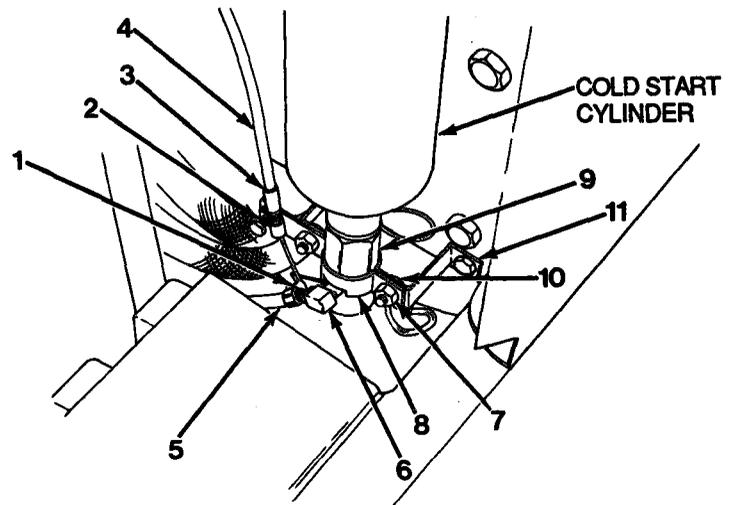

Figure 7-1
2. Using a 13 mm wrench, remove two cap-screws (1) and (2) and tube braces (3) from manifold coverplate and high-pressure tubes (4, Figure 7-1).